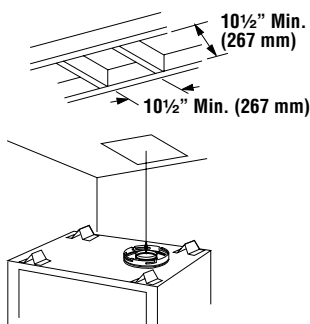

Figure 22
A. Frame ceiling opening - Use a plumb line from the ceiling above the appliance to locate center of the vertical run. Cut and/or frame an opening, 10 1/2" x 10 1/2" (267mm x 267mm) inside dimensions, about this center mark (**Figure 22**).
C. Frame ceiling opening - If the vertical route is to penetrate a ceiling, use plumb line to locate the center above the appliance. Cut and/or frame an opening, 10 1/2" x 10 1/2" (267 mm x 267 mm) inside dimensions, about this center (refer to **Figure 22 on page 12**).